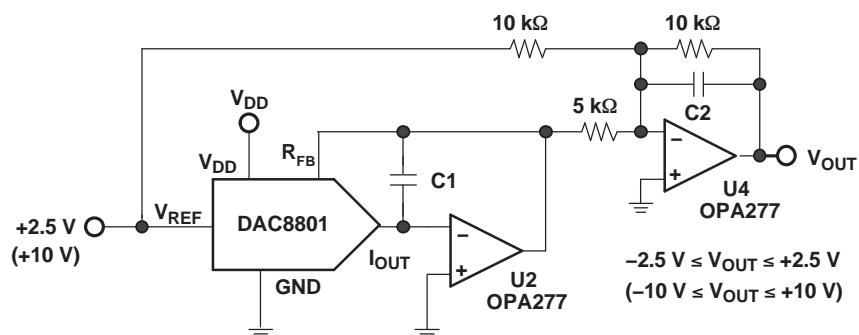

Figure 22. Bipolar Output Circuit
Some applications require full 4-quadrant multiplying capabilities or bipolar output swing. As shown in Figure 22, external op amp U4 is added as a summing amp and has a gain of 2X that widens the output span to 5 V. A 4-quadrant multiplying circuit is implemented by using a 2.5-V offset of the reference voltage to bias U4. According to the circuit transfer equation given in Equation 2, input data (D) from code 0 to full scale produces output voltages of  $V_{OUT} = -2.5\text{ V}$  to  $V_{OUT} = 2.5\text{ V}$ .